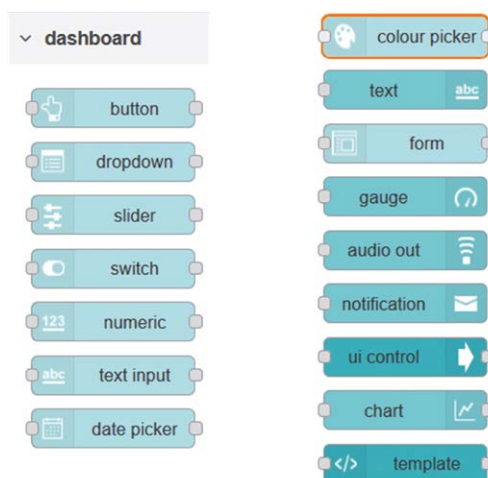

Figure 8.2 The dashboard nodes
- You will see many new nodes added to the Node Palette under the heading **dashboard** as shown in Figure 8.2